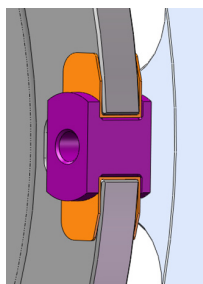

Fig 2: Bobbin to bell.
Step 3: Locate bobbins into bell slots and locate onto disc. (Fig 2.)